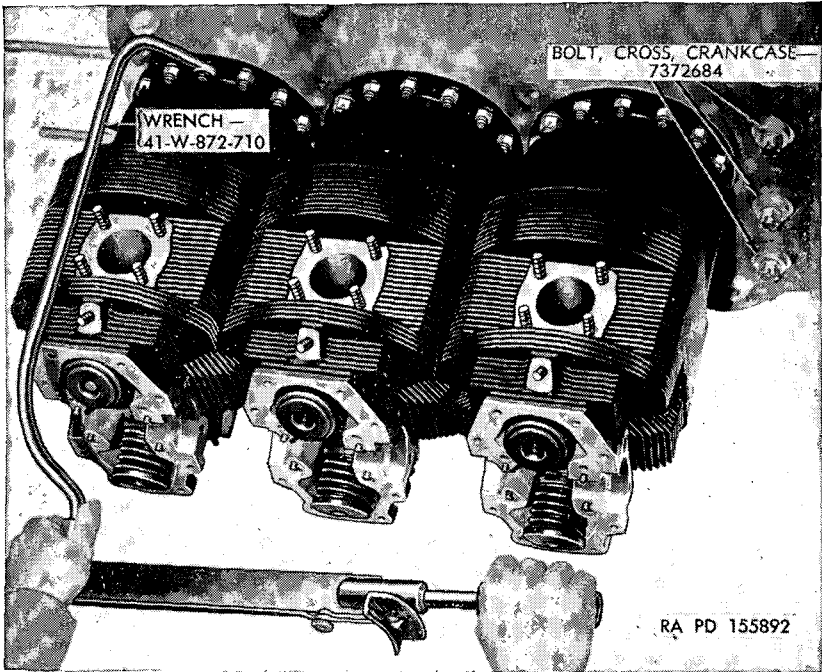

Figure 22. Torquing cylinder hold-down nuts.
b. Using a torque wrench in combination with box wrench 41-W-872-715 for larger nuts, and box wrench 41-W-872-710 (fig. 22) for smaller nuts, remove the cylinder hold-down nuts. Check and record the torque required to break each nut loose. If the torque required to break the smaller nuts (on studs) is less than 300 lb-in, the nut should be removed and mica base anti-seize compound applied to the stud. Install the nut and tighten to 350 lb-in. If the nut does not tighten to this torque, the stud is stretching and must be replaced (par. 57). If the torque required to break the larger nuts (on cross bolts) is less than 650 lb-in, the nuts should be removed, antiseize compound applied,